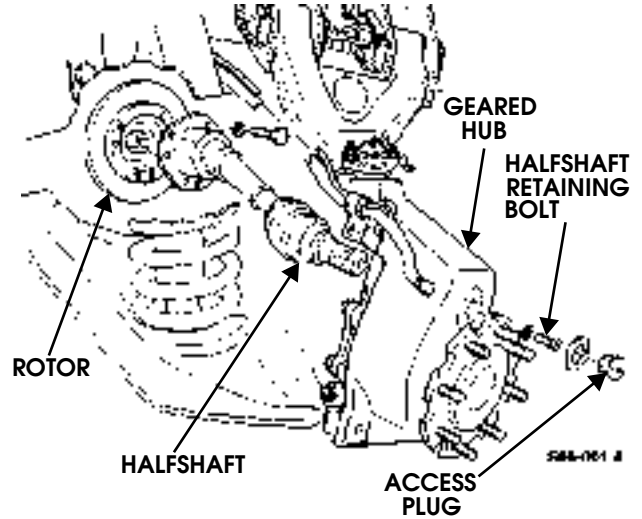

Figure 9-45: Halfshaft Retaining Bolt
2. Remove access plug and washer from geared hub (Figure 9-45).
17. Apply thread-locking compound to halfshaft retaining bolt and secure halfshaft to geared hub with lockwasher and halfshaft retaining bolt. Tighten halfshaft retaining bolt to 37 lb-ft (50 N•m) (Figure 9-45).